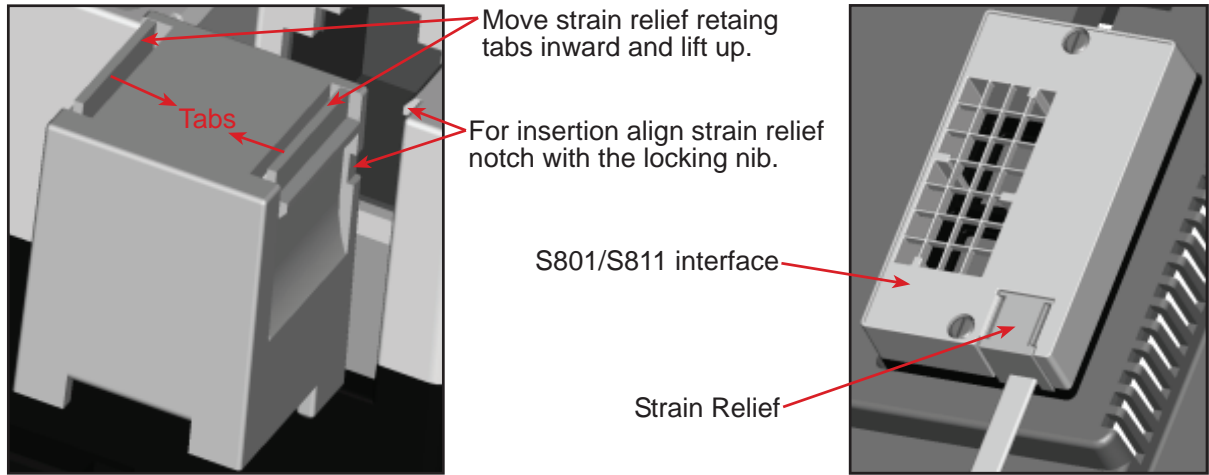

Figure 6.
- 13. Remove the strain relief from the interface housing by moving the Strain Relief Retaining tabs inward and lift up slightly then moving it away from the interface body. See Figure 6.